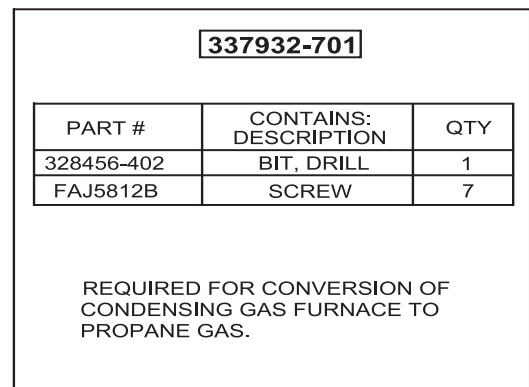

Fig. 7 – Gas Conversion Kit
1. See Fig. 7 to verify you have the correct set of mixer screws.